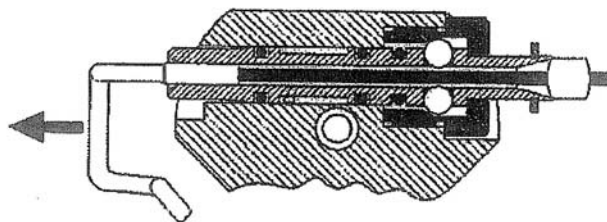

Fig 3.9 Reloading the Spool Valve
1. Actuate spool valve by pushing on the pull ring (Fig 3.9, stages 1 and 2).
2. Re-thread the actuation cable into the armoured sheathing (Fig 3.9, stage 2).
3. Ensure end of the bullet on the cable can be seen through the hole in the end of the spool (Fig 3.9, stage 3).
4. Pull the spool to the stand-by position (Fig 3.9, stage 4).